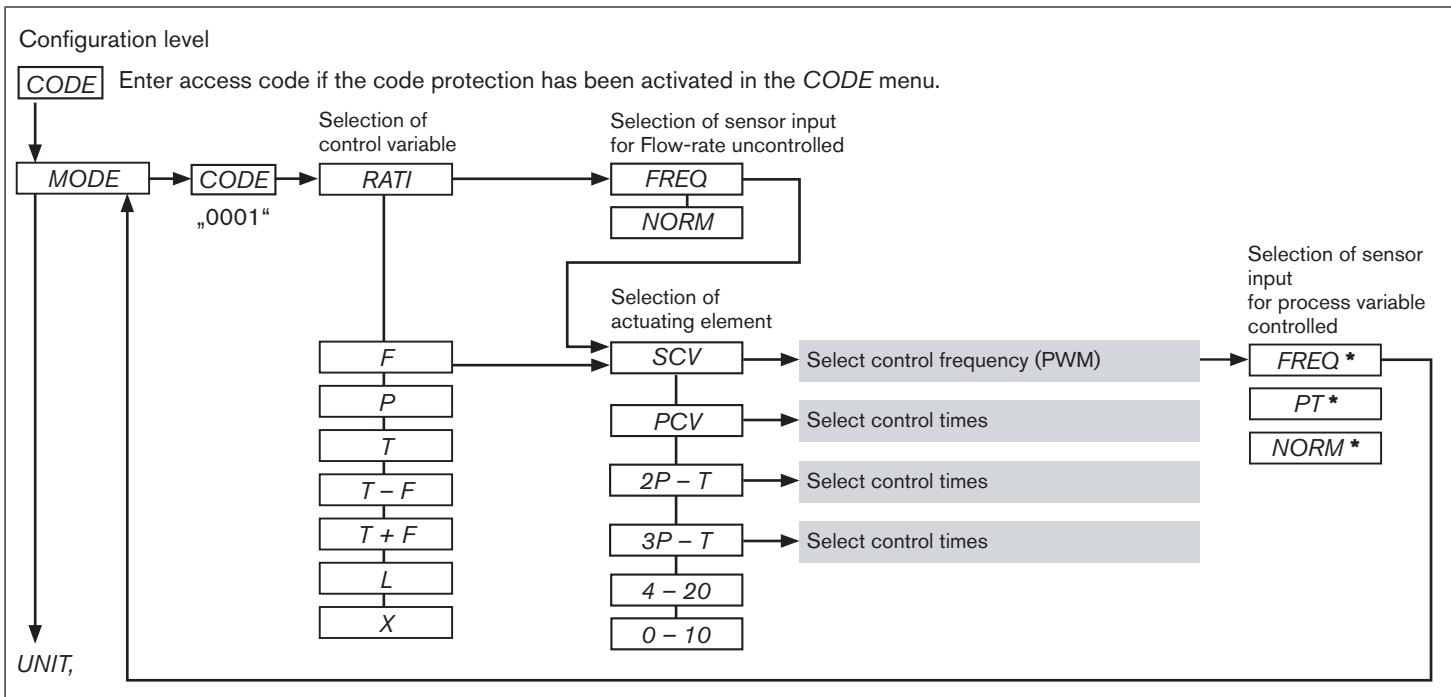

Fig. 15: Operating structure of the configuration level - 1 of 12
*⁾ The display depends on the control variable set in the MODE menu (see Fig. 15)